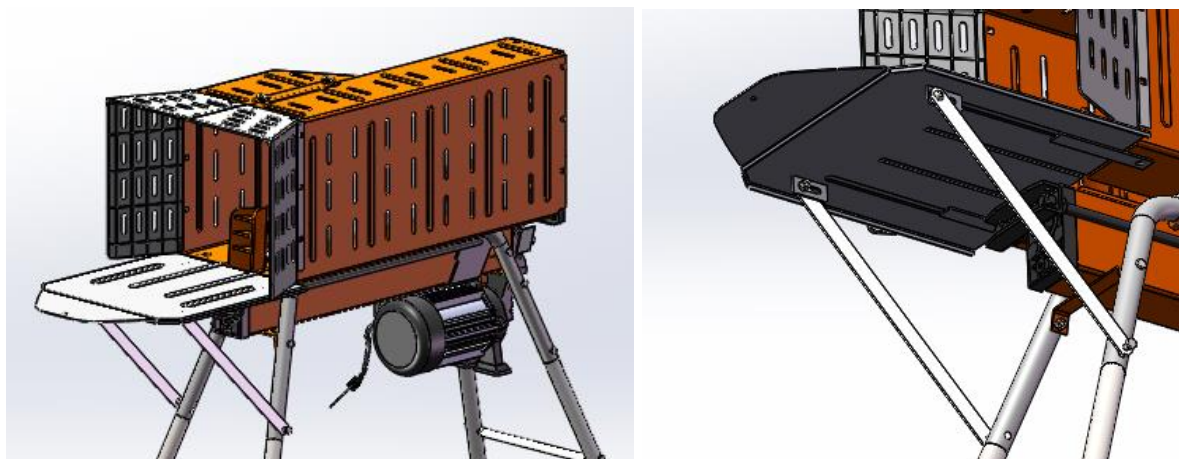

Fig. 4
4、 Install the stock support plate. Push the two M8×16 screws through mounting hole of the support plate and the stock support plate, tighten with two M8 nuts. Then push two M8×16 screws through the two mounting hole of the stock support plate, push two M8×50 bolts through the mounting hole of the left and right bent legs and mounting hole of the stock support plate on the other side, tighten with four M8 nuts. (Fig. 4)